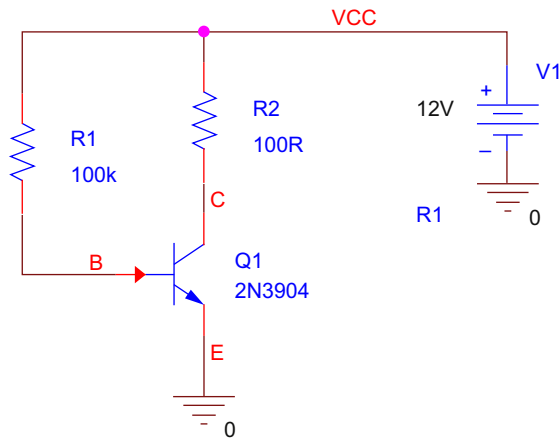

FIGURE 8.12
1. Draw the circuit in Figure 8.12 using the Q2N3904 transistor from the Capture **transistor** library. Label the nodes as shown (Place > Net Alias).